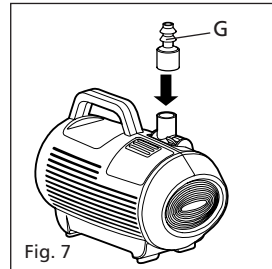

Fig. 7
- Fit a suitable length of hose 12.5mm bore hose on to the hose adaptor. See Fig 7 (G).